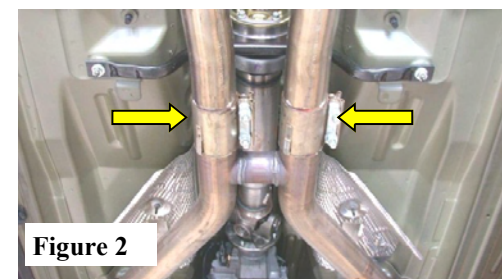

Figure 2
2. Loosen the front band clamps shown located just behind the H-pipe. **Do not discard band clamps as they will be used for installation of your new exhaust.** (See Fig. 2)